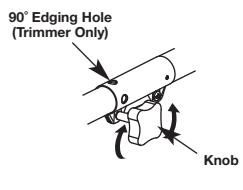

Fig. 3
- Turn the knob counterclockwise to loosen (Fig. 3).
- Turn knob counterclockwise to loosen (Fig. 3).
- Turn the knob clockwise to tighten (Fig. 3).